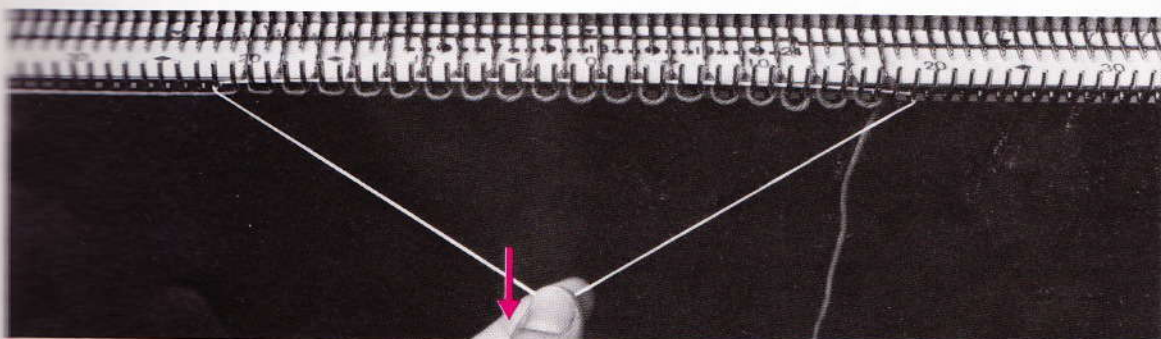

Fig. 48
- The zig-zag of the first row is formed. Place the removable cord as shown in fig. 48 and hold it down firmly.